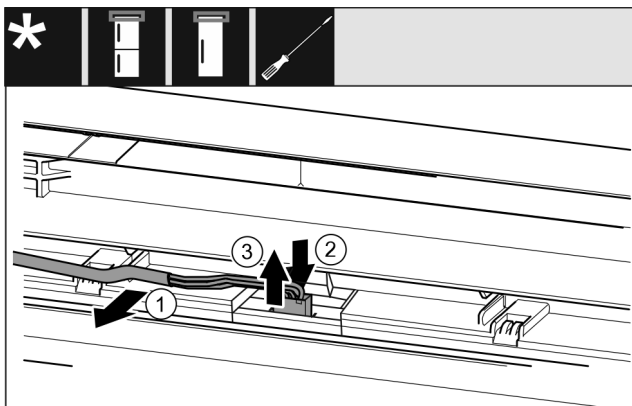

Fig. 22 Fridge/freezer combinations/freezers/cooling units
- ▶ Carefully loosen the cable Fig. 22 (1) from the guide in the door.
- ▶ Press back the tab Fig. 22 (2) behind the plug.
- ▶ Pull the plug Fig. 22 (3) upward carefully.